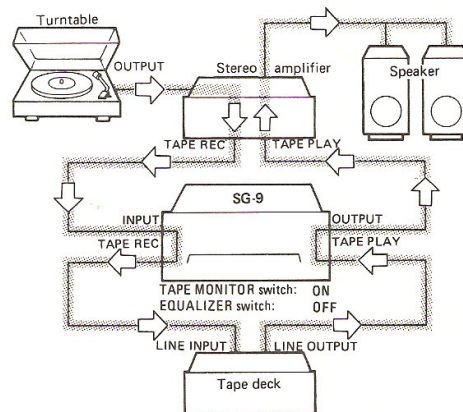

Fig. 10
**TAPE RECORDING OR PLAYBACK WITHOUT EQUALIZING THE PROGRAM SOURCE (Fig. 10)**